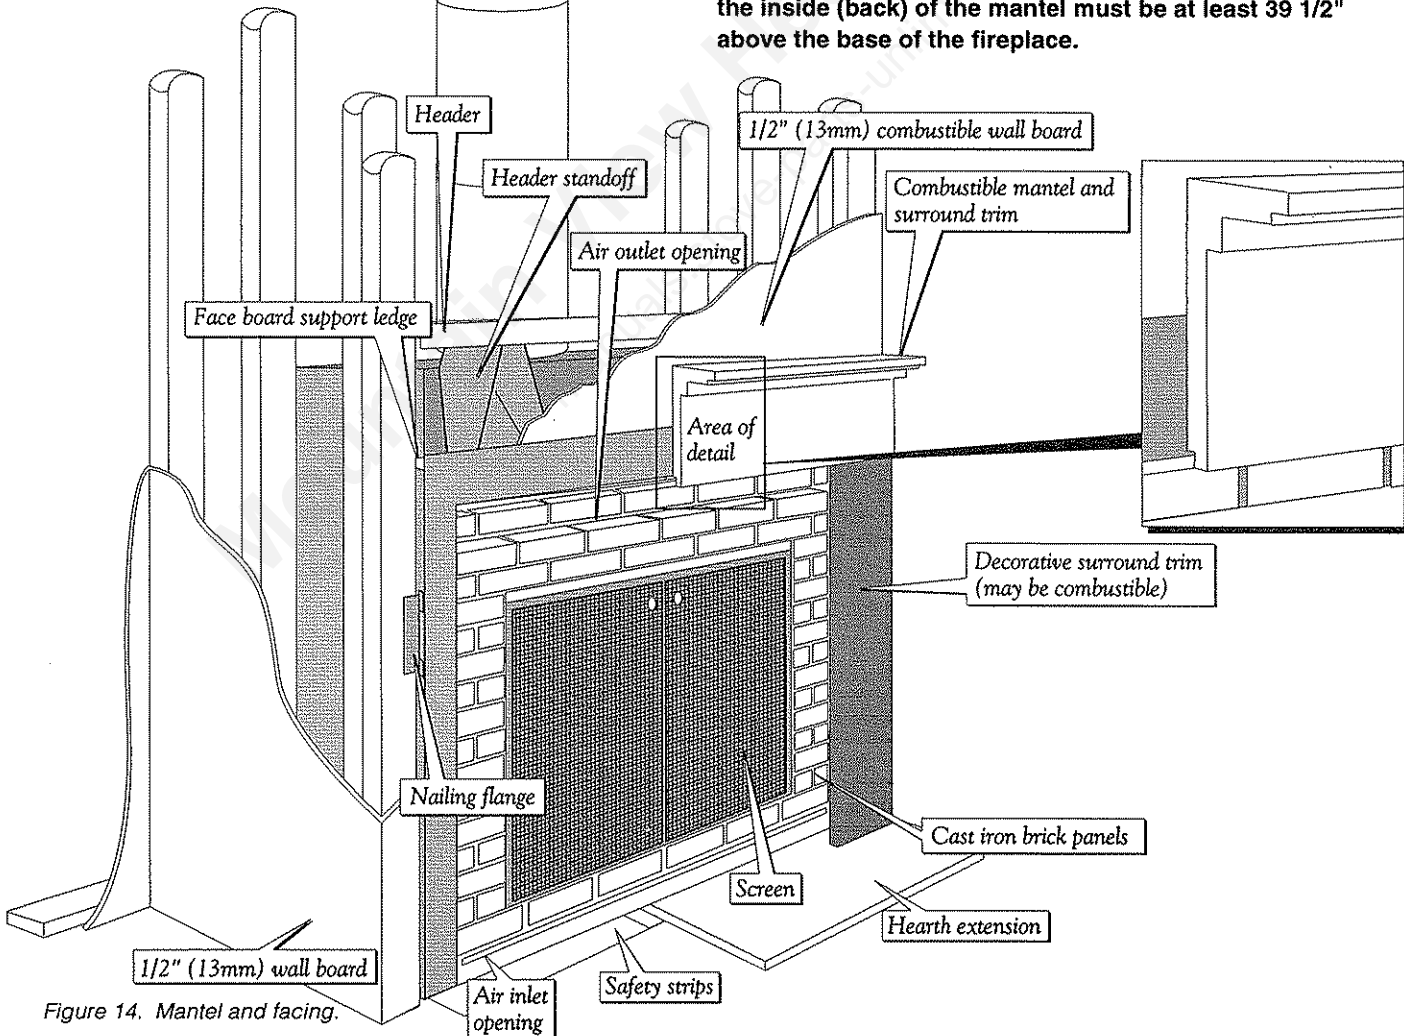

Figure 14. Mantel and facing.
Combustible finished wall material may be installed to rest on the ledge between the upper surround panel and the header standoff as shown in Figure 14. Do not notch the wall material to fit below the ledge.
- Combustible or non combustible decorative materials (marble, ceramic tile, brick) may be applied to the black steel fireplace face as shown in Figure 14.
Chimney penetrations at ceilings and the roof must be constructed to maintain 2" (51mm) clearance between the chimney and the framing material. Figures 14 & 15.